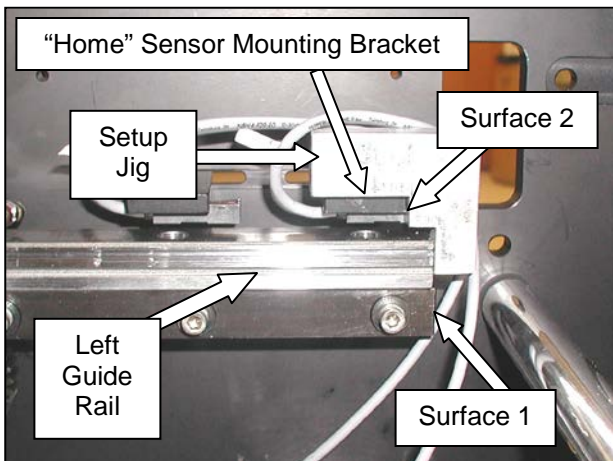

Figure 3-361. Setting the "Home" Jaw Position Sensor
3. Position the setup jig against the back of left guide rail so that the jig sits squarely against the rear surface of the rail (surface 1 in Figure 3-361). Slide rear sensor bracket back until it touches the jig (surface 2 in figure). **Be sure the jig is only against the mounting bracket, not the sensor itself.** When in position, tighten the mounting screw identified in Figure 3-361.